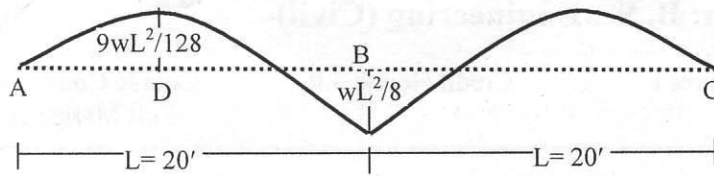

Fig. 2
6. Use the BMD of a two span continuous beam (Fig.2) to
- Use WSD to design (with neat sketches) rectangular section ( $b=12''$ ,  $h=24''$ ) at D if  $w=5$  k/ft is applied on the beam shown in Fig.2 of Question 6.